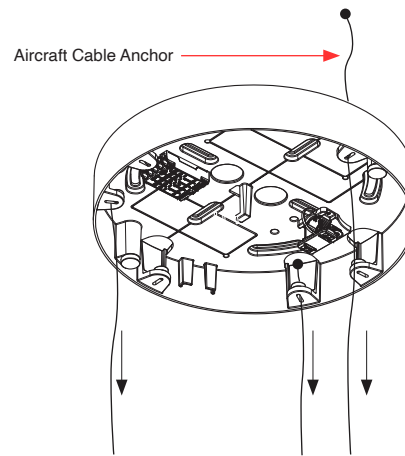
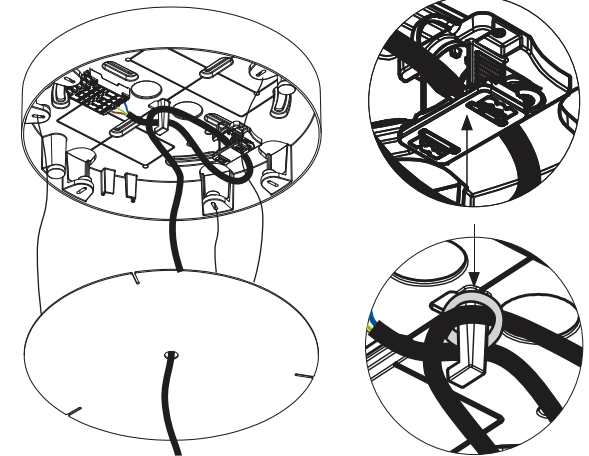

Figure 2
Figure 3
3. Guide suspension cables through the three evenly spaced cable slots. (See Figure 2)
9. Cut the electrical cord to the desired length ensuring to leave ten (10) inches of excess cable.
12. Secure the canopy strain relief. (See Figure 3)
13. Route cable back to the center of canopy lid and secure using the provided ziptie. (See Figure 3)